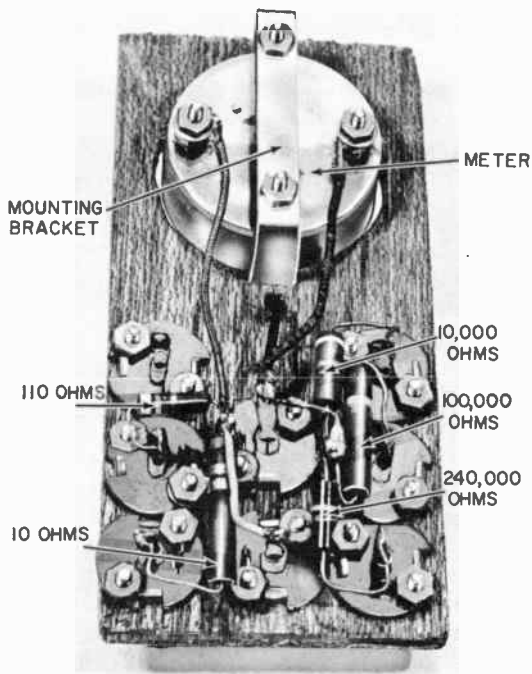

Fig. 204. Back view of tester panel, showing circuit wiring and meter connecting leads.
5. Fasten the resistors (make mechanically strong connections) to the jacks and terminals. A 4-inch length of insulated lead goes from the top center jack through the small hole above. Fig. 204 illustrates the wiring.
8. Now mount the meter. This is a simple process since the meter is supplied with a mounting bracket. Do not fasten this too tightly or you may damage the plastic case. Connect the two leads to the meter (Fig. 204).